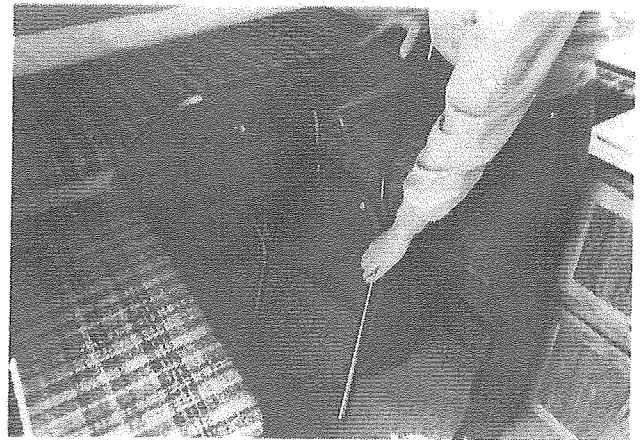

Figure 23
29. Extend the table legs completely so that both leg supports lock into position. Set table upright and check to insure it is stable. (See Figure 23)